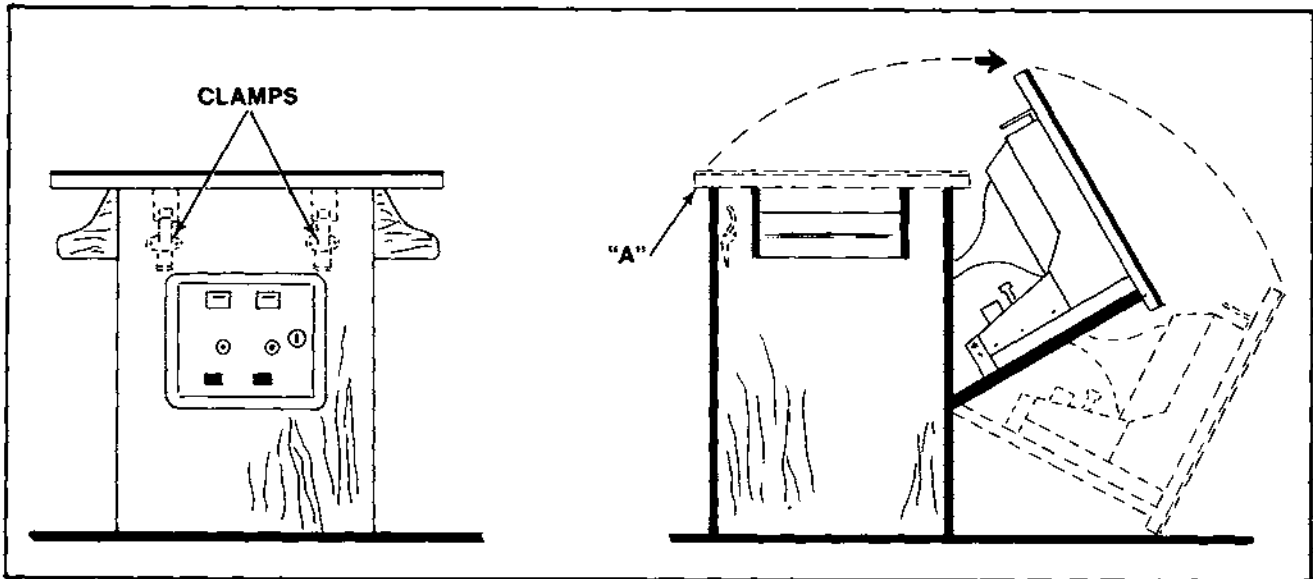

Figure 4-10 Opening the Cocktail Game
Open the coin box door and release the two latches indicated in Figure 4-10.
- Grasp the table top at "A" and open it as indicated in Figure 4-10.